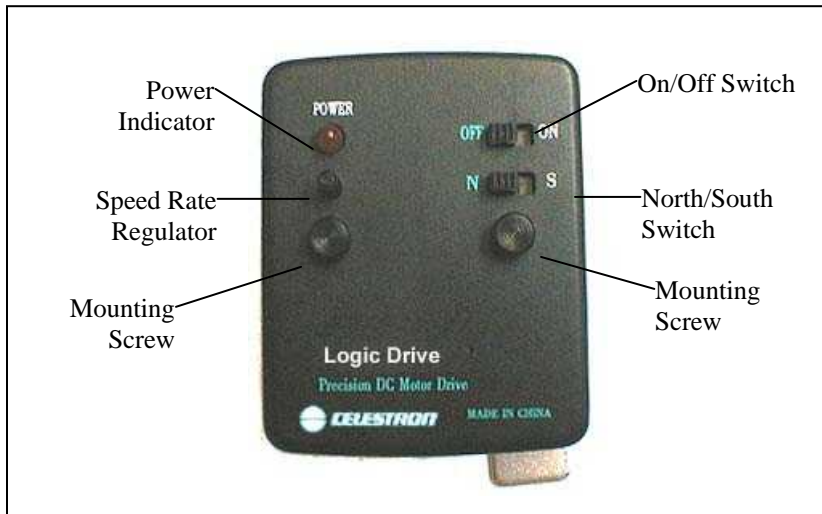

Figure 1
1. Unscrew the two mounting screws from the motor cover plate (see figure 1).
The Motor Drive is equipped with a *speed rate regulator* (see figure 1) that allows the motor drive to track at a faster or slower speed. This is useful when observing non-stellar objects like the moon or Sun, which travel at a slightly different rate than the stars. **Never observe the Sun without using a proper solar filter with your telescope.** To change the speed rate of the drive motor:
1. Remove the two mounting screws from the front of the motor cover. See Fig 1